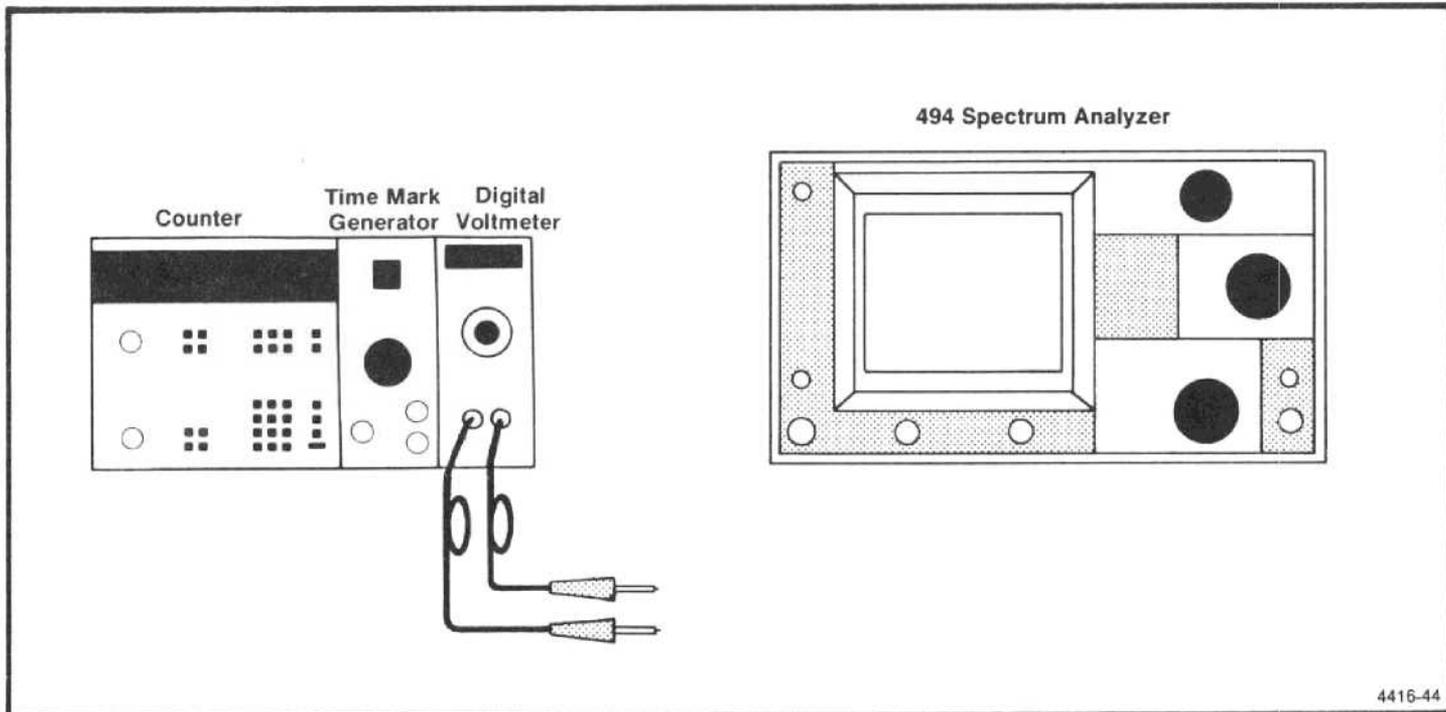

Figure 5-9. Test equipment setup for calibrating the frequency control system.
a. Test equipment is shown in Figure 5-9. Set the FREQUENCY to 0.0 MHz, FREQ SPAN/DIV to 5 MHz, and Triggering to FREE RUN.